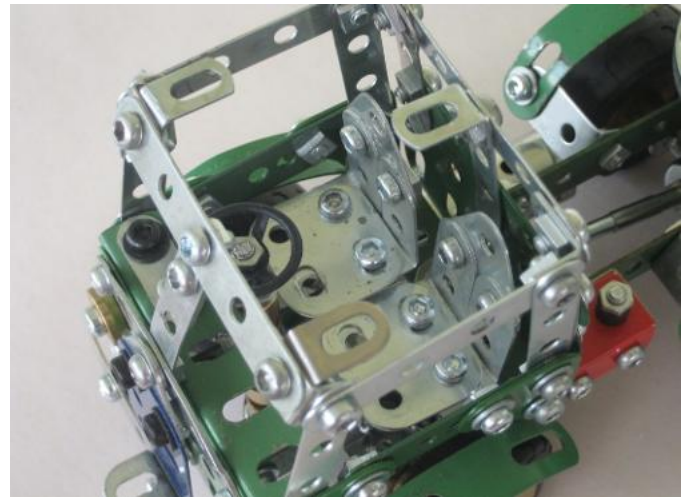
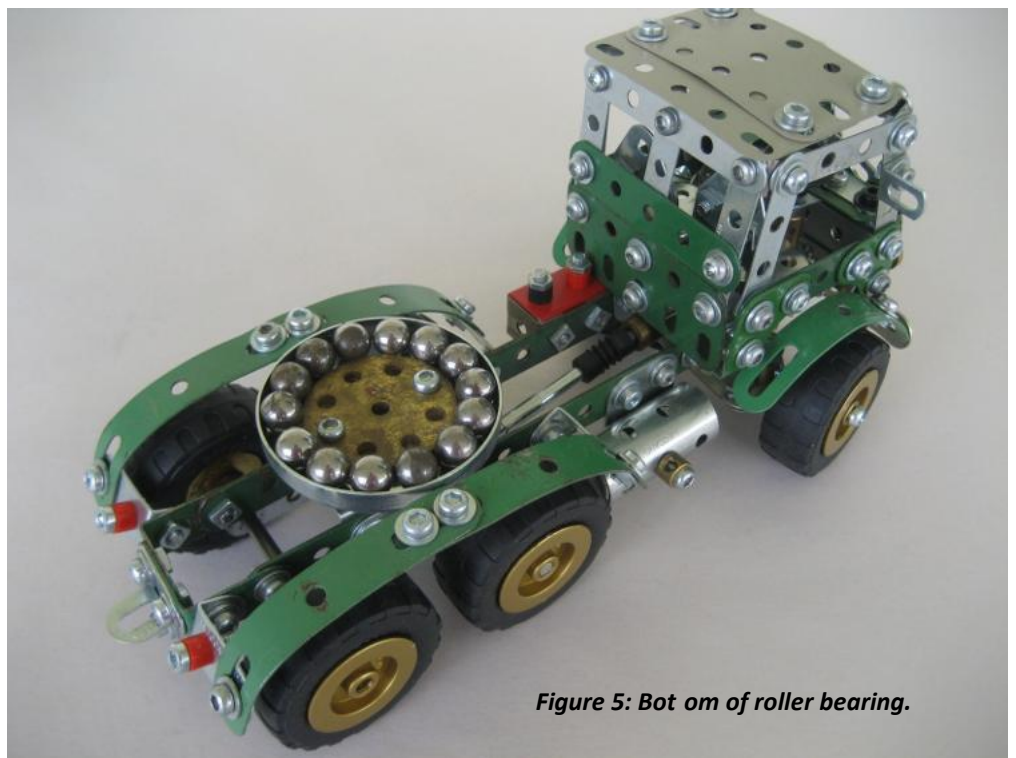
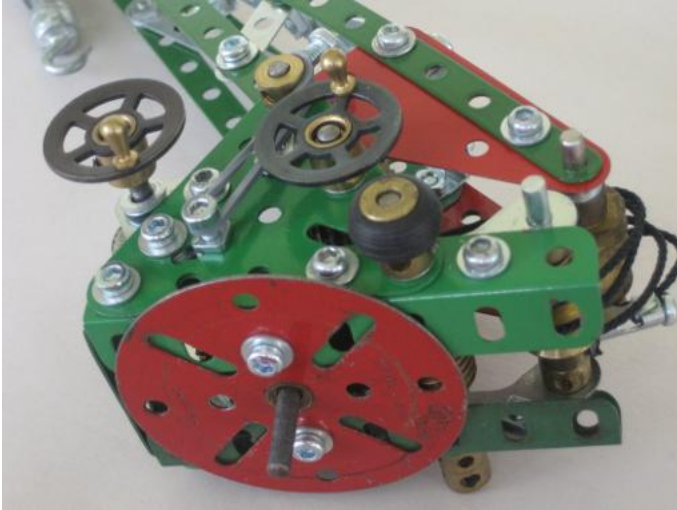

Figure 4: Cab seats.
Figure 5: Bot om of roller bearing.
Figure 6: Underside of crane.
The seats are 1" Flat Girders (squabs) joined by two 1" Angle Brackets (AB) and to the $\frac{1}{2}$ " Triangular Plate representing each seat back, see **Fig. 4**. Each seat is attached to the 4th hole along the chassis rails by a 1" by $\frac{1}{2}$ " Angle Bracket through the lower hole of the AB's long leg. The cab's rear is made up from a 5-hole Flat Girder and a 5-hole Strip bolted to three vertical 4-hole Narrow Strips (**Fig. 5**).
Crane Roller Bearing: The bottom of the roller bearing comprises, from the top, 4 Wheel Discs, a Wheel Flange (flange upwards), a plastic Collar, a Washer, a Bush Wheel (boss upwards) all fixed to the two rear cross-members at the 11th and 13th holes along the chassis. These items are held together by two 3/4" Bolts. 14 Ball Bearings run in the groove between the edge of the wheel discs and the flange of the wheel flange, see Fig.5. The top plate of the bearing is a Face Plate bolted to two 3 1/2" Angle Girders which form the lower frame members of crane jib support, **Fig. 6**. 2 1/2" Triangular Plates form the jib supports bolted to the 7-hole AGs at the first and 4th hole from the front. A 1 1/2" by 1/2" DAB at the front forms the cross-member.
Slewing: Crane slewing is done by a 57t Gear fixed to the top of the roller bearings central shaft, a 1 1/2" Axle Rod. This shaft is free on the wheel disk but is fixed to the bush wheel on the truck chassis. The 57t gear is driven by a Worm on a 2 1/2" Axle running through the 5th holes of the 3 1/2" AGs above. The turning "handles" are small Rubber Tyres press fitted on Short Couplings on each end of the axle, see **Fig. 6**.